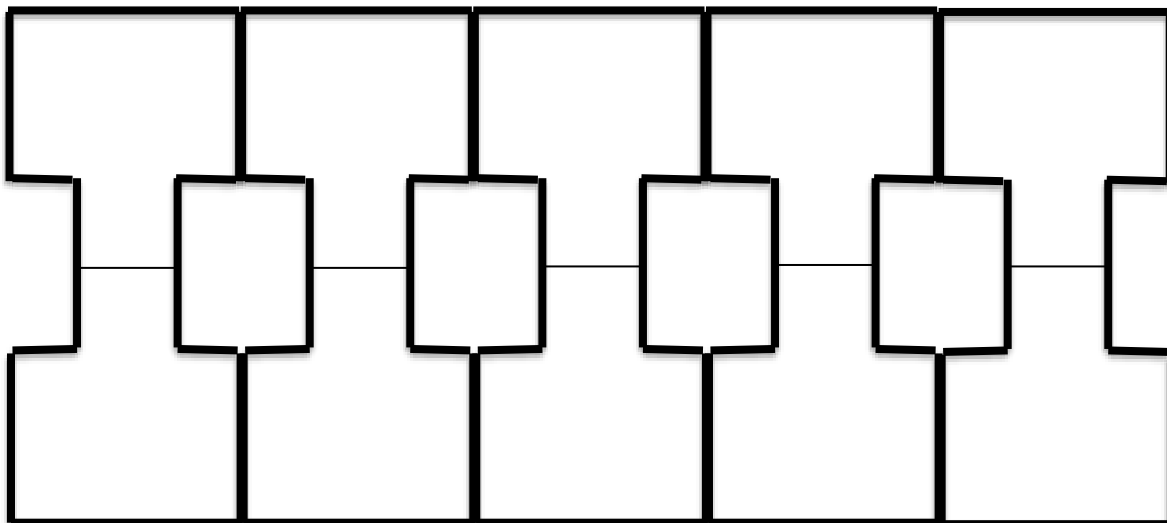

Figure 5: Row of completed scribed samples
- 3) Place a straight edge, such as a ruler, across the four scribe points and scribe a line down the middle of all samples using a hard, sharp object, such as a hobby knife. A depiction of the final scribed samples can be seen in Figure 5.